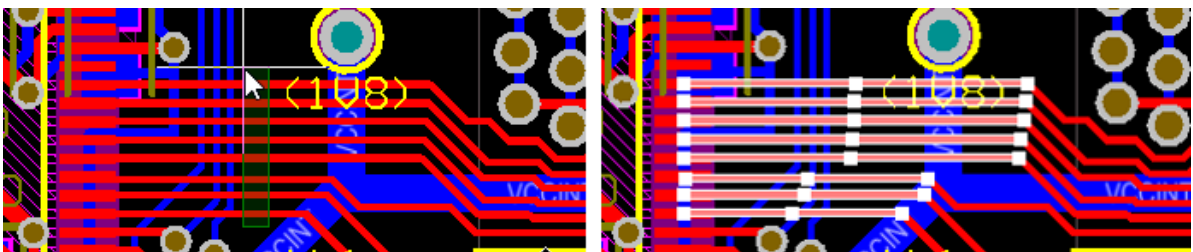

Figure 5. Selecting top routes. Press Shift+S to isolate top layer
8. Drag a selection box from lower right to upper left to select the parallel track segments leaving U1 and routing to S2. This will select the first track segment of those parallel routed nets. Press **Shift+S** to isolate top layer, refer to Figure 5 below.
Drag the selection window from left-to-right, you will select all objects that fall completely within the bounds of the selection area. This behavior is the same as using the **Edit » Select » Inside Area** command, Figure 5. Drag the selection window from right-to-left, you'll select all objects that fall completely inside the selection area or are touched by its boundary. This behavior is the same as using the **Edit » Select » Touching Rectangle** command.